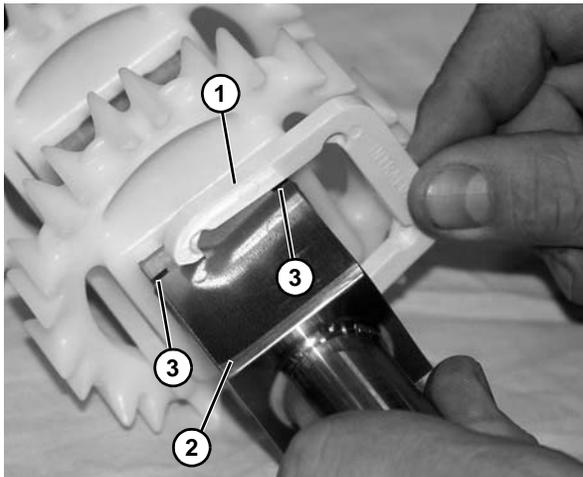

Figure 50
9. Remove the retaining clip (Figure 50, item 1) off the shaft (Figure 50, item 2).
Make note of the recessed areas (Figure 50, item 3) of shaft where retaining clip seats into.